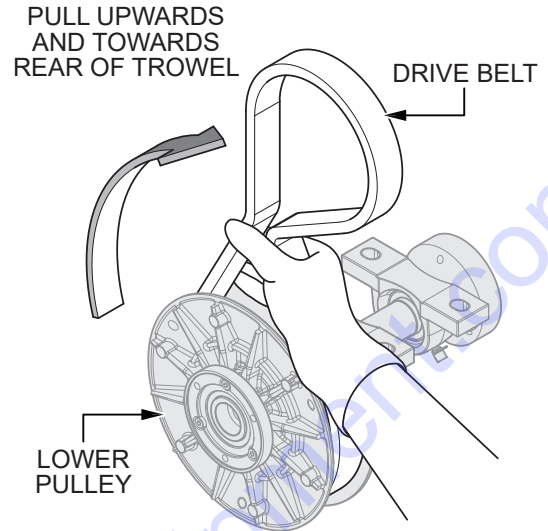

Figure 35. Spare Drive Belt Placement (Lower Pulley)
5. Squeeze the drive belt (Figure 35) and pull upwards and towards the rear of the trowel. This will spread open the faces of the lower drive pulley.